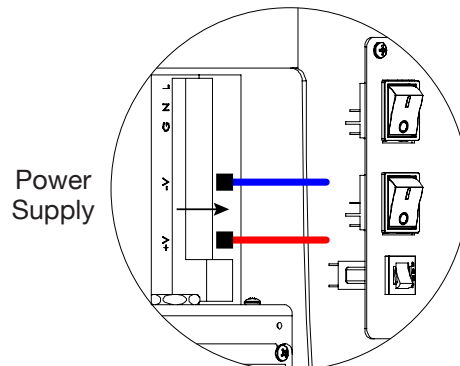

Figure 28. Disconnect DC Power Supply Wires
5. For solar installations, remove the power switch mounting plate and disconnect the red (+V) and blue (-V) wires from the power supply. Tape or wire nut the ends separately to prevent shorts (Figure 28).